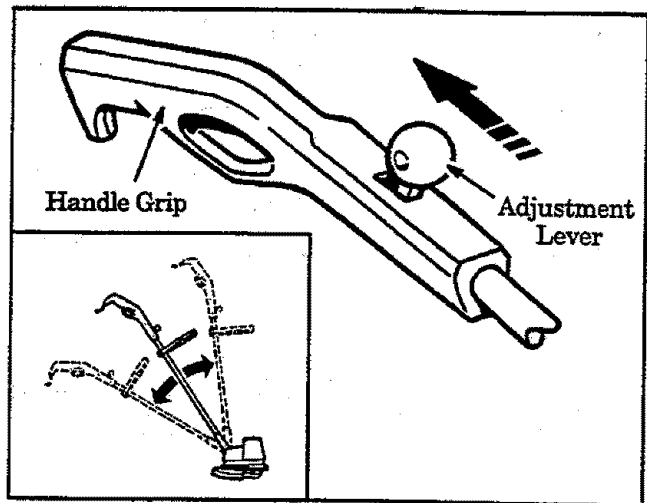

Figure 7
Your trimmer is equipped with a new adjustable handle which makes trimming and edging around hard to reach areas much easier. The adjustment lever is located on the front of the handle grip. Figure 7. Make sure trimmer head is resting on the ground when adjusting the handle.
2. Pull the Adjustment Lever toward the top of the handle. Figure 7.
3. Adjust the handle to the desired position as shown in Figure 7 (inset) and release the Adjustment Lever. The handle will lock into place Automatically.